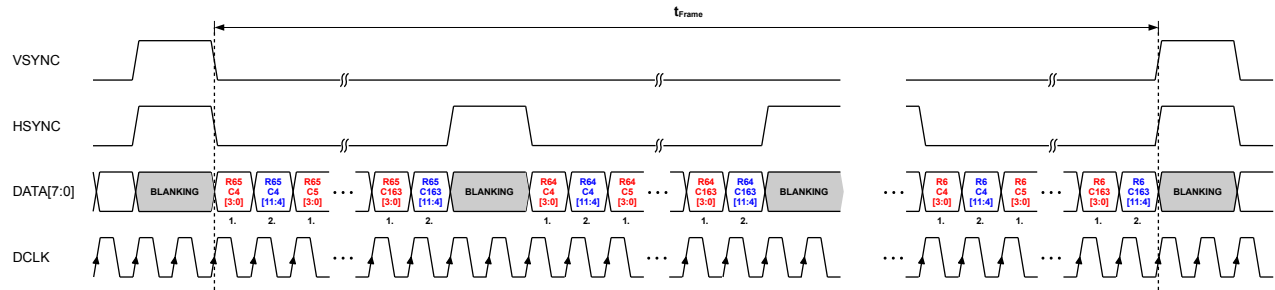

Figure 32: **lsb/msb** split mode
- **lsh/msb split mode:** Transfers 12 bit pixel data with LSByte leading and MSByte trailing with 2x DCLK. Refer to Table 15 and Figure 32.